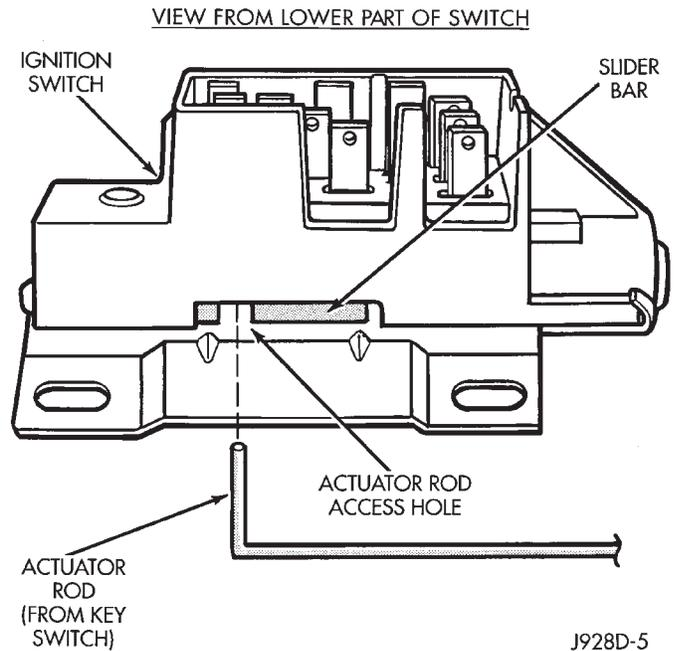

Fig. 2 Ignition Switch/Remote Actuator Rod—Typical
The switch is connected to the ignition key lock assembly by a remote actuator rod. This remote actuator rod fits into an access hole on the bottom of the ignition switch (Fig. 2).
To test the ignition switch circuitry and continuity, proceed as follows. Place the slide bar (on the ignition switch) (Fig. 2) into the detent position to be tested. An ohmmeter or continuity light may be used to check switch continuity. Refer to the Ignition
- (1) Place the key lock switch in the ACCESSORY position.
- (2) Place the slider bar (in the ignition switch) (Fig. 2) into the ACCESSORY detent position.
- (3) Connect the wiring to the switch as follows: Install the non-black (colored) connector first and then the black (colored) connector to the ignition switch. One connector will interlock the other connector.
- (4) Slip the remote actuator rod into the access hole on the switch (Fig. 2). Install the switch to the steering column. Be careful not to move the slider bar (on the switch) out of the ACCESSORY detent position. Remove the ignition switch actuator rod securing-tape from steering column.
- (5) Install the two ignition switch-to-steering column screws finger tight. **Do not tighten screws at this time.**
- (6) Adjust ignition switch as follows: